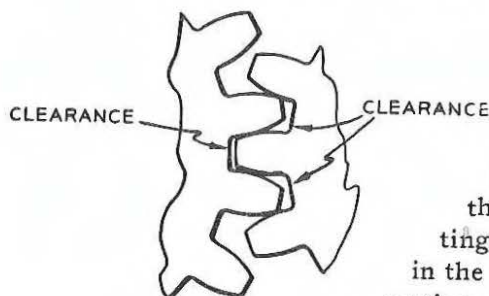

FIG. 191
When setting up the gear train, be sure to allow sufficient clearance between two meshing gears (Fig. 191). Gear clearance does not reduce the accuracy of a thread cutting operation, because all play in the gears is taken up in one direction. A method often used to obtain proper gear clearance is: (1) Place a sheet of thick writing paper between the teeth of the two meshing gears, (2) tighten gears in position, and (3) remove paper. A small amount of grease, preferable graphite grease, applied to gear teeth will often aid in obtaining smoother, more quiet operation.